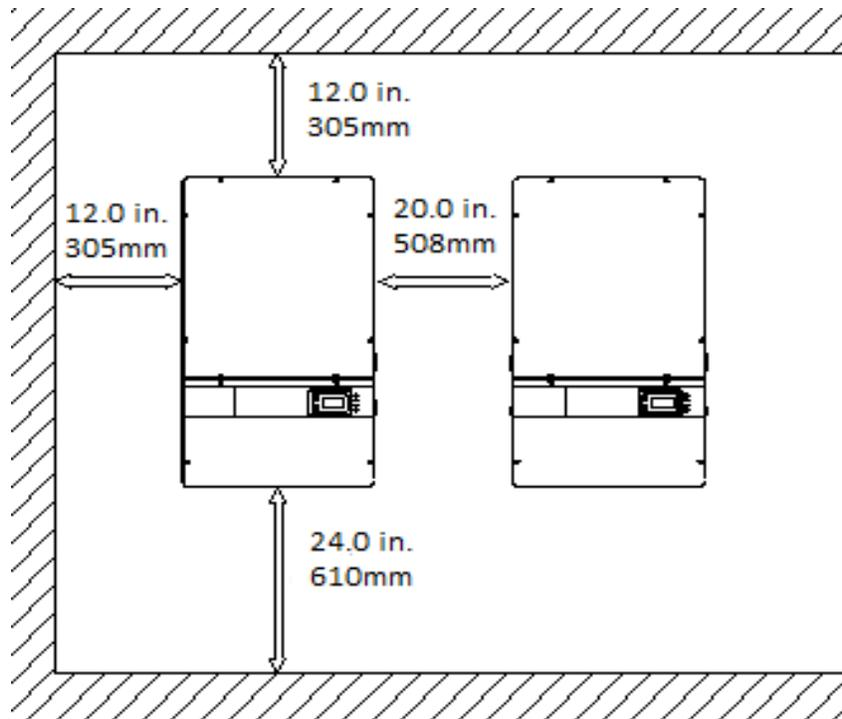

Figure 3.3 Wall mounting Clearance Requirements
- The cooling air exhausts are at the right of the inverter. As the air intake is on the left side of the inverter section of the unit, there should be at least 19.7 inches of clear space at the left of the enclosure. Air should be able to flow all around the unit for proper ventilation. It is also recommended to have at least 23.6 inches of clearance at the bottom side. See figure 3.3 for details.
The minimum distances that should be met for wall mounting are shown in Figure 3.3